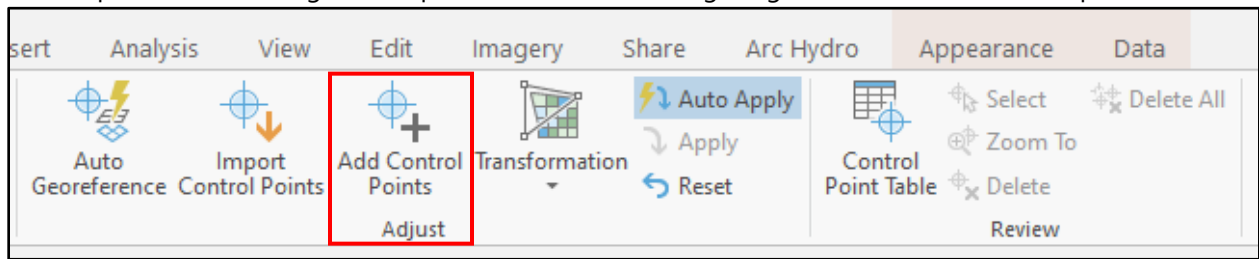

Figure 34
- ii. After identifying control points, in the Georeference tab, click Add Control Points and start to align the TIFF to the basemap (Figure 34). First click a location on the TIFF, then click the same location on the basemap. Continue adding control points until the TIFF image aligns with the aerial basemap.